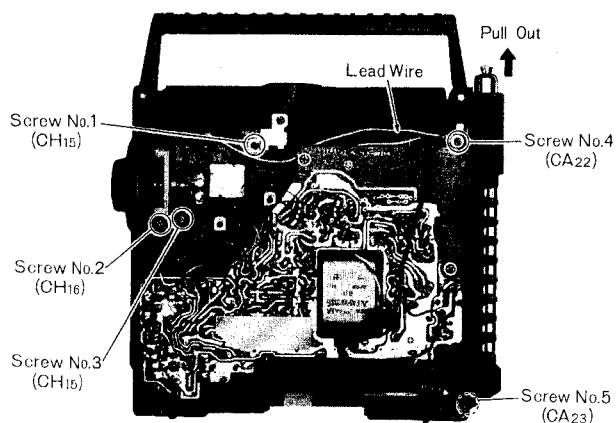

Fig. 4
4. Remove three (3) dial drive assembly screws, nos. 1~3, as illustrated in fig. 4.
2. Unsolder lead wire to whip antenna terminal, as illustrated in fig. 4.
3. Remove two (2) whip antenna cover screws, nos. 4 & 5, as illustrated in fig. 4.
4. Pull out whip antenna in the direction of arrow, as illustrated in fig. 4.